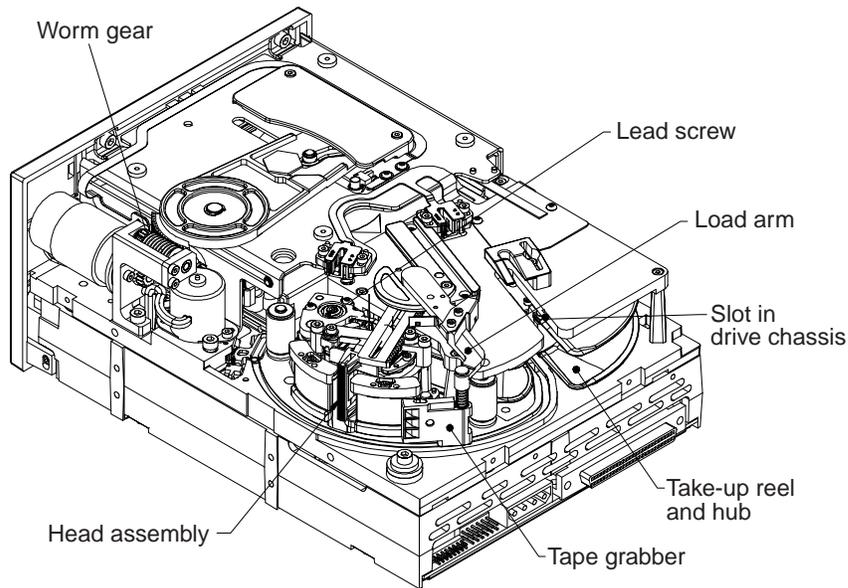

Figure 13. Diagram of Viper 200 showing key components used in manual cartridge removal (no tape cartridge in drive)
Follow these steps if the cartridge is loaded and seated, and the tape is entirely or partially threaded into the drive. You will need a small, flat-blade screw driver and an 1.5-mm hex wrench. Figure 13 shows key components of the drive mechanism that are referred to in the text below.
6. Rotate the hub to align the slot in the hub with the slot on the drive chassis (see Figure 13).